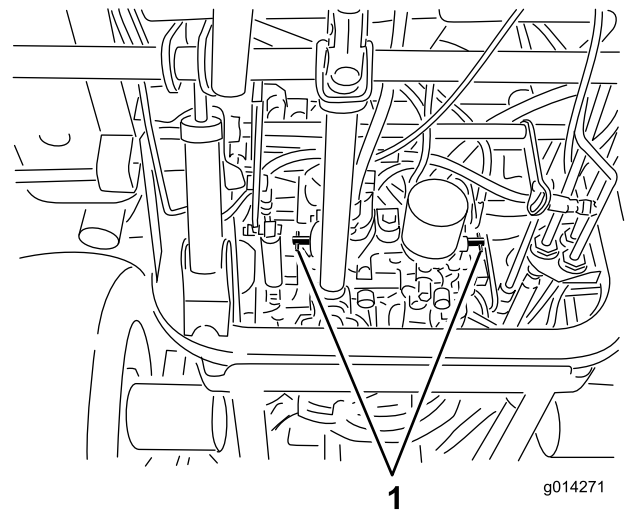

Figure 43
4. Rotate each by-pass valve counterclockwise 1 turn (Figure 43).
Rotate each by-pass valve clockwise 1 turn and hand tighten them (torque of approximately 8 N-m [71 in-lb]) (Figure 43).